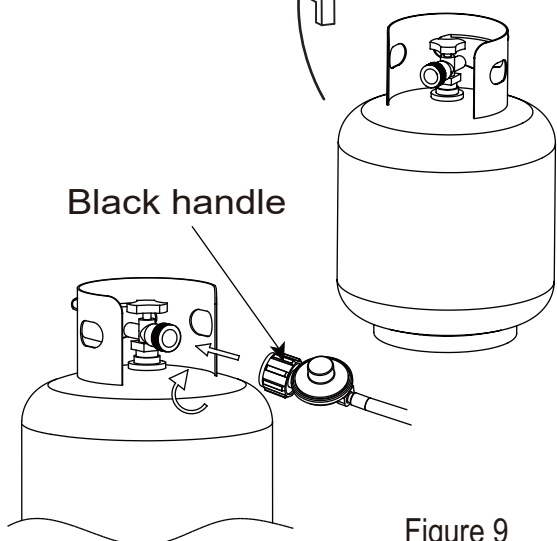

Figure 9
STEP 7: Place the gas cylinder into the cylinder holder (figure 9), secure the cylinder by tightening clockwise the bolt (figure 10) found on the cylinder holder, so the cylinder cannot move from side to side or fall down.